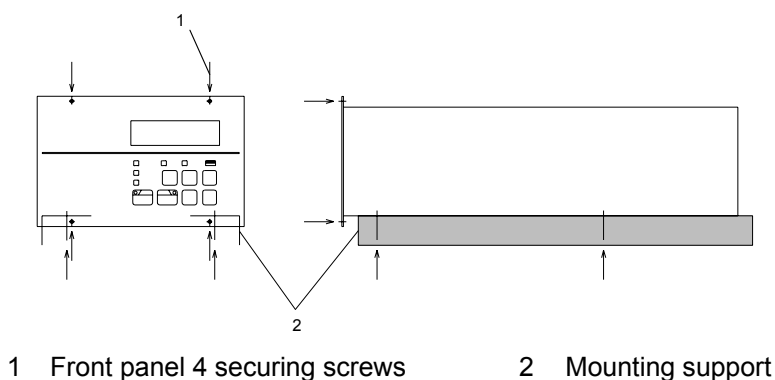

Figure 13 - Example of securing the SCU-XL800
**Note:** For the dimensions of the front panel and positions of the screw holes for the rubber feet, refer to Figure 9 and Figure 13.
- Attach the front panel to the rack using the 4 screws Figure 13 (1).
- Support the SCU-XL800 from the bottom using a support angle Figure 13 (2) or a similar tool.